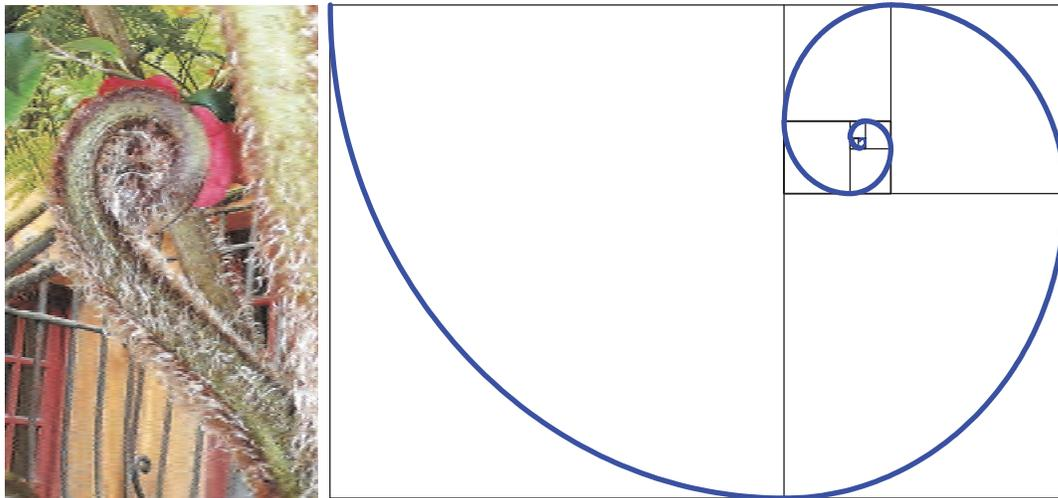

Figure 1.15 Fern growth spiral and logarithmic spiral
- ◆ Logarithmic spiral is a self-similar curve for which at any point the angle between tangent and radius is the same. It is common in nature as a natural growth curve of plants and seashells. See examples in Figure 1.15.